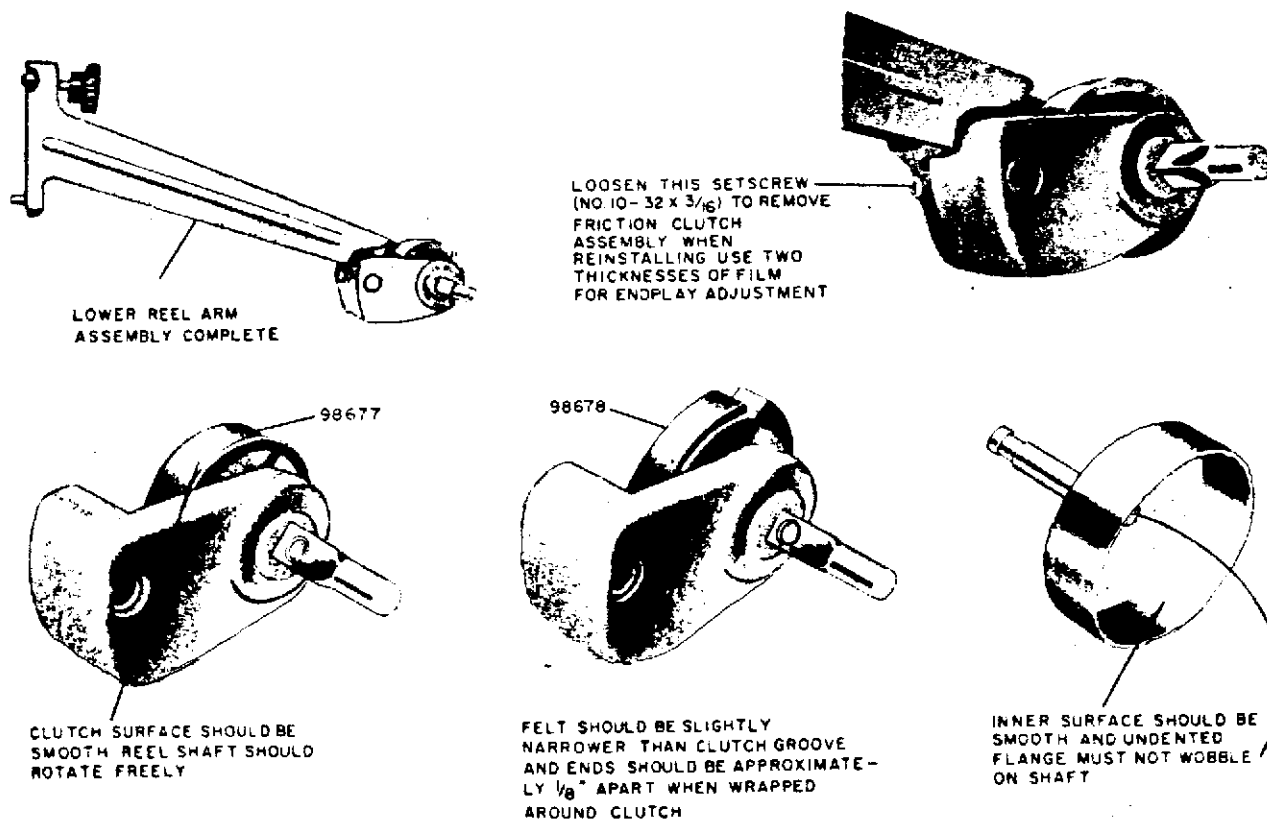

Figure 11 — Lower Reel Arm Assembly
4. *Reel Arm.* Refer to figure 11 for maintenance information on the lower reel arm assembly.